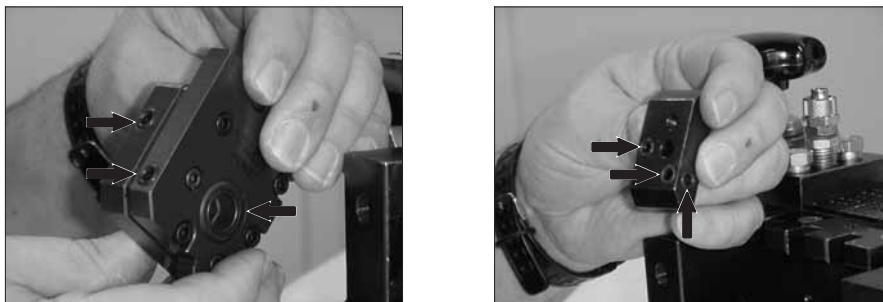

Figure 7-27 Location of the pump O-rings and seal and the adhesive diverter plate O-rings
13. See Figure 7-27. Replace the pump O-rings (2) and seal (1) and the adhesive diverter plate O-rings (3) with those supplied in the service kit.